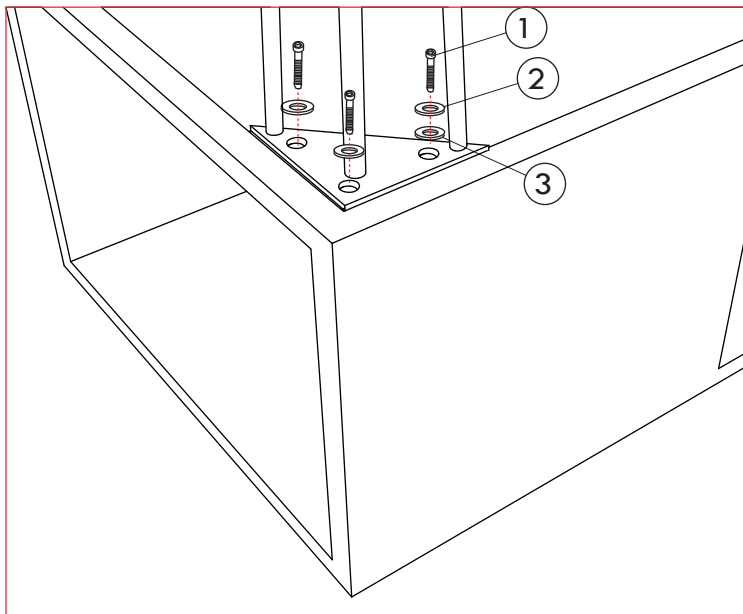

FIG.2
- 3.- PLACE THE BOLTS (2) USING THE WASHERS (1) THROUGH THE HOLES IN THE METAL LEGS AND THE BASE AND THEN TIGHTEN STRONGLY WITH THE ALLEN WRENCH. AS SHOWN IN FIG. 2